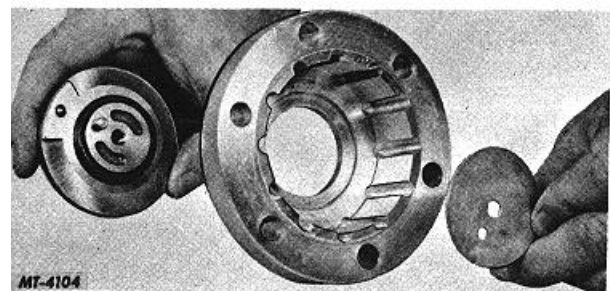

Fig. 10 Removing Control Assembly and Disc from Clutch Body
Remove disc (9) from bottom center of clutch body (13). Place thumb inside clutch body (13) on center of control assembly (16) and push outward, Fig. 10. Remove O-ring seal(10)and outer oil seal (17) from control
Apply a small amount of chassis lubricant on the bearing side and in the grooves of the control assembly (16). Install new O-ring seals (10 and 17) on control assembly (16). If the hub has a seal groove, position the split towards the outside of dial. Place disc (9) on inside (clutch side) of clutch body (13). See Fig. 10.